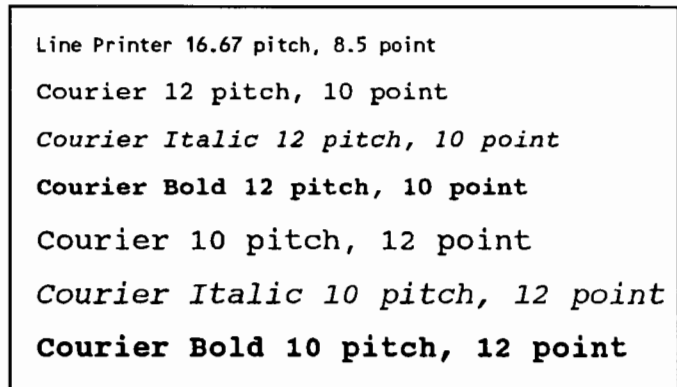

Figure 1-1.
- Fourteen internal bitmapped fonts (Figure 1-1).